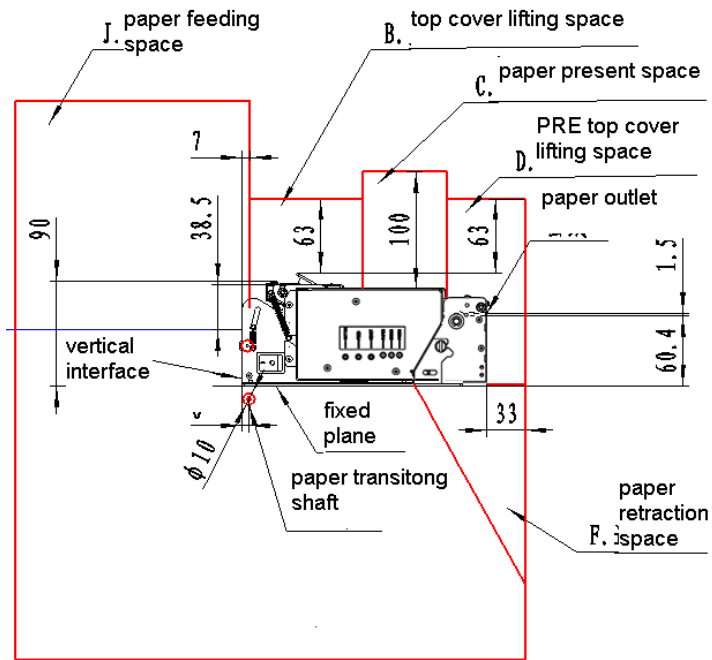
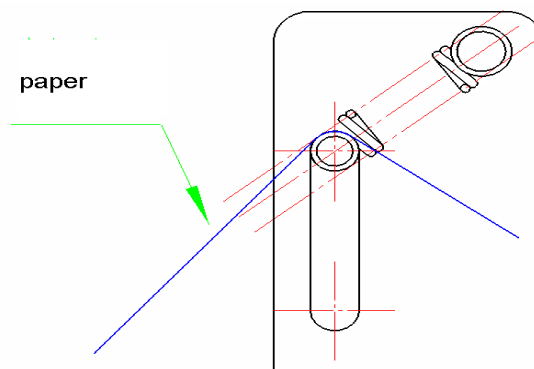

Figure 4.7.3 Structure without paper holder
Figure 4.7.8 Buffer explanation
- ◆J: paper feeding space allowed by the paper roll. If your printer doesn't have paper holder or the paper holder is made yourself, please consider the space. (Figure 4.7.3) There is a blue line in the space. If paper feeding is controlled above the blue line, your printer is considered to be horizontal. Or else, it is vertical. For horizontal type, you had better control the paper roll above the space, mainly in order to use the buffer mechanism of print mechanism to avoid compression. For vertical type, Please add buffer mechanism to paper holder (as figure4.7.8). In addition, if paper feeding touches vertical critical interface (as figure4.7.3), please add paper transition roller to the paper holder in order to avoid that paper touches metal parts directly , causing paper damaged.